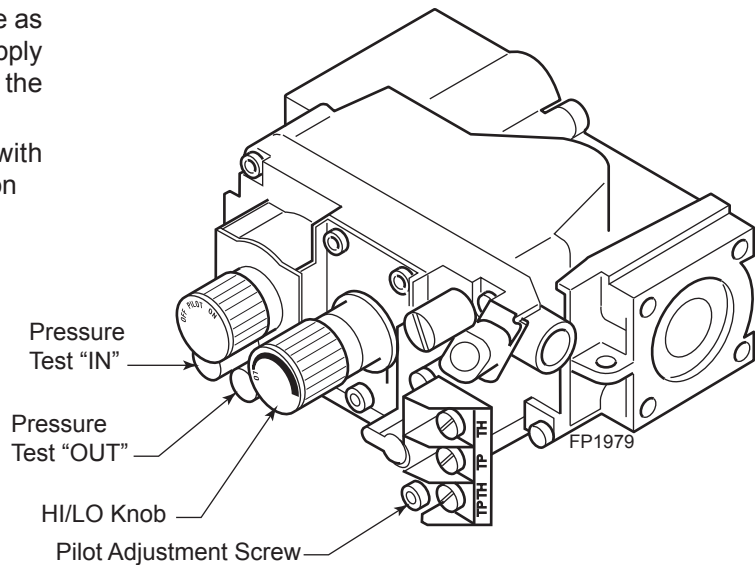

**Figure 50 -
5. To check gas pressures at valve, turn captured screw counter clockwise 2 or 3 turns and then place tubing to pressure gauge over test point. Turn unit to high. *Figure 50.* After taking pressure reading, be sure and turn captured screw clockwise firmly to reseal. Do not over torque. Check test points for gas leaks.